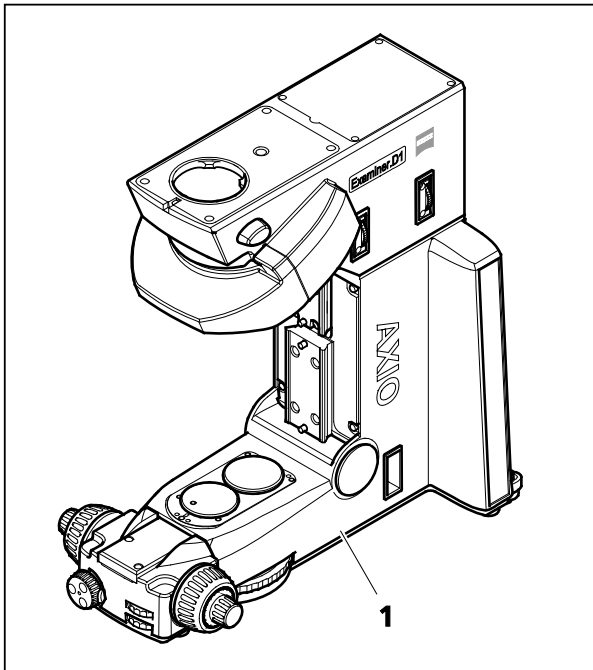

Figure 3-1 Installing the microscope
- Place the microscope stand (Figure 3-1/1) on a vibration-free, level and non-inflammable surface.